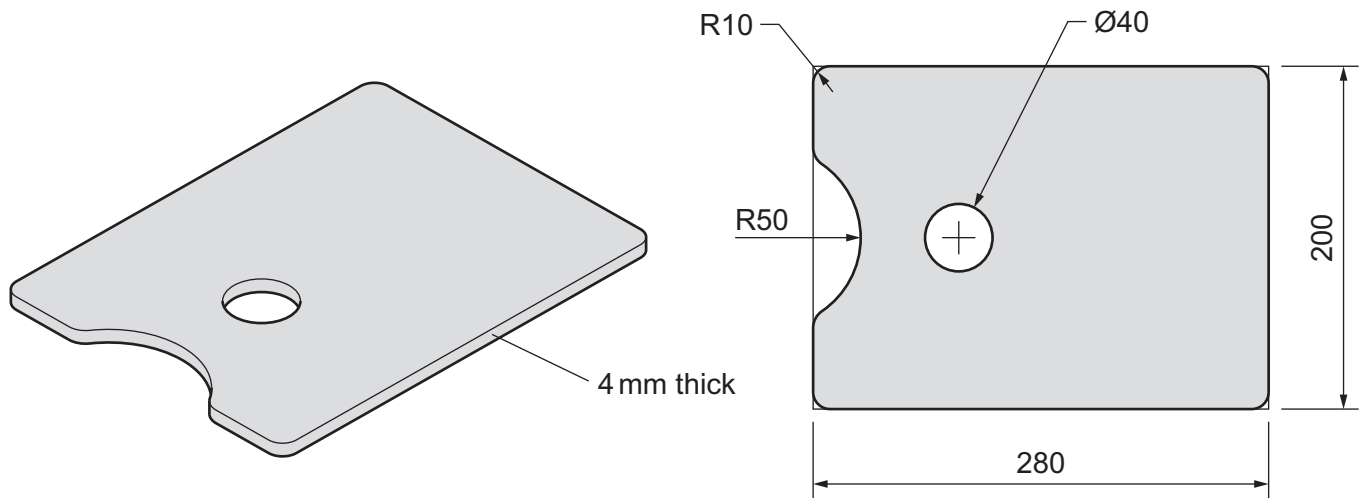

Fig. 13.4
- (d) Fig. 13.4 shows details of an artist's palette that will be stored inside the lid of the case. The palette is made from acrylic.